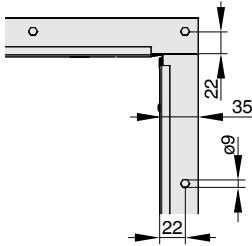

Fig. 12: Detail corner holes for angle frame (W)
The angle section frame (W) consists of width profiles and height profiles that are connected to form a frame. Corner holes are only provided in the width profile (Fig. 12). Number of holes according to the table. All holes $\varnothing 9$ mm.